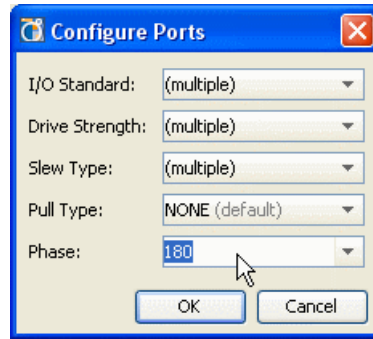

Figure 8-36: Configure Ports Dialog Box
2. In the I/O Ports view, Package Pins view, or SSN view, select **Configure I/O Ports**, as shown in Figure 8-36, page 303.